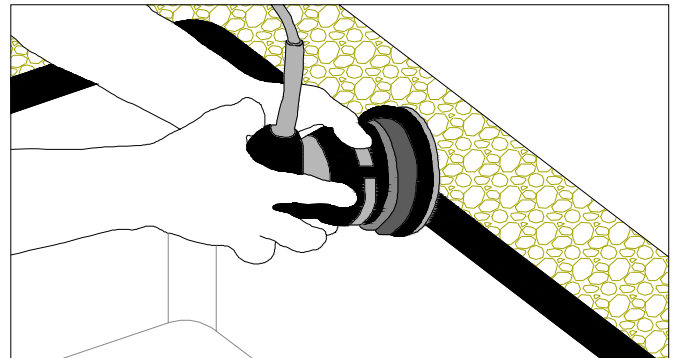

Figure 4B
- Sand the edge on the laminate and sink ring with a random orbital sander. (FIG. 4B)